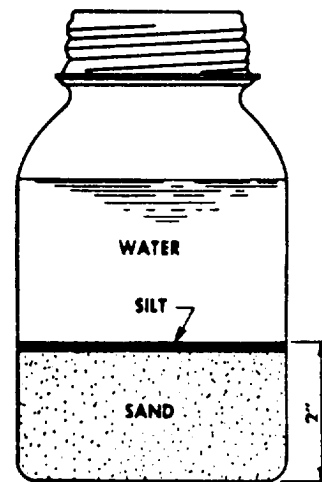

Figure 6-2.—Quart jar method of determining silt content of sand.
4. If, at the end of 1 hour, more than 1/8 inch of sediment has settled on top of the aggregate, as shown in figure 6-2, the material should be washed.